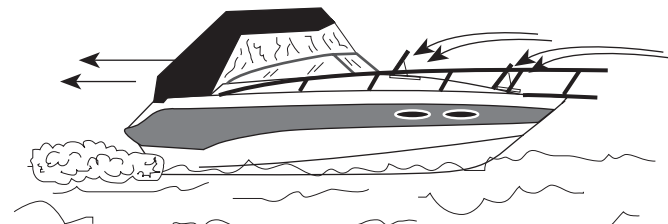

FIGURE 1.8 DESIRED AIR FLOW THROUGH THE BOAT
4. Opening and closing ports, hatches, doors, and windows may raise or lower CO levels on board a boat. (See Figures 1.8 and 1.9.)